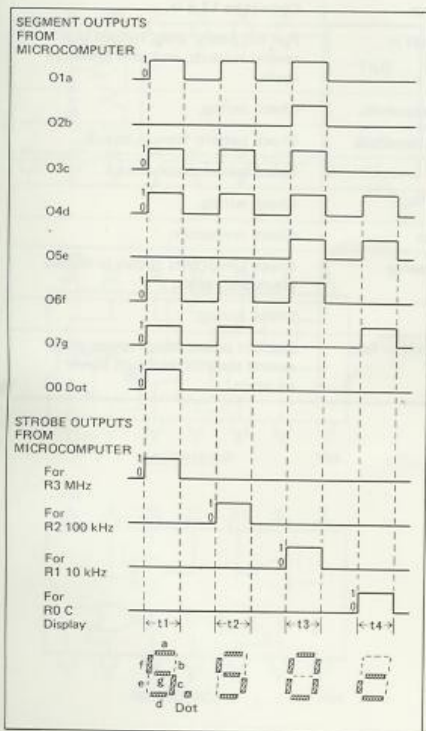

Fig.7
- * Levels when 145.50C is displayed are shown in Fig. 7.
- * Per the above, Fig. 7 signals are repeatedly applied to O0-O7 terminals, firing each segment.